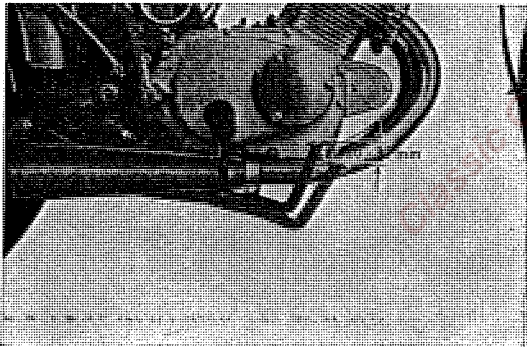

Fig. 4.94 Rear brake pedal play
7. Install the rear brake wire to the brake arm. Set the rear brake panel on its side and adjust rear brake play. (Refer to Fig. 4.94)